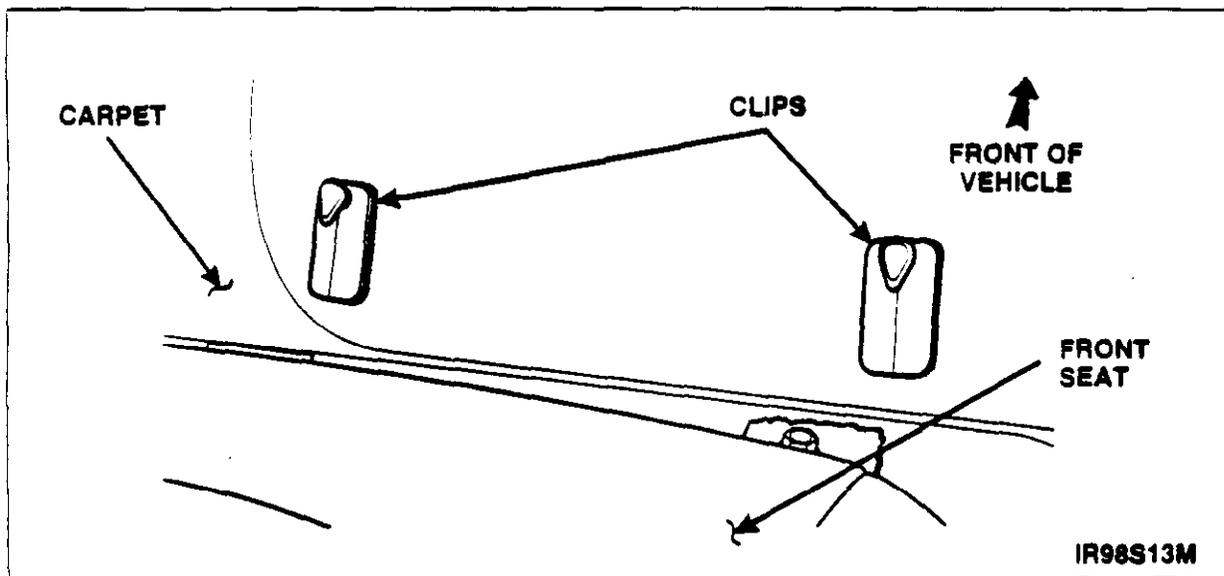

FIGURE 18
34. When clips are completely installed, they should appear as shown in Figure 18.